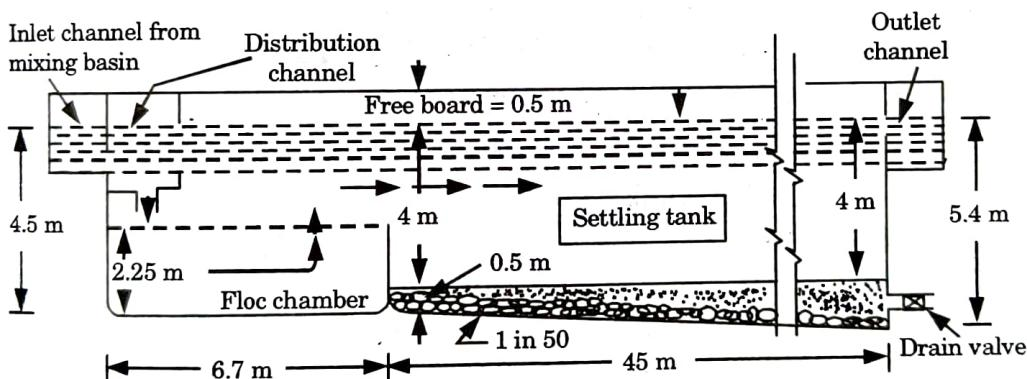

Fig. 4.17.1. Dimensions of the coagulation-cum-sedimentation tank.
6. Hence, use a tank of $45 \text{ m} \times 12 \text{ m} \times 4 \text{ m}$. Provide extra depth for sludge storage, as 4.5 m depth at the starting end, and $4.5 + \frac{45}{50} = 5.4 \text{ m}$ at the d/s end (using 1 in 50 slope). Use a freeboard of 0.5 m above the water level, as shown in Fig. 4.17.1.
5. The details and dimensions are shown in Fig. 4.17.1.